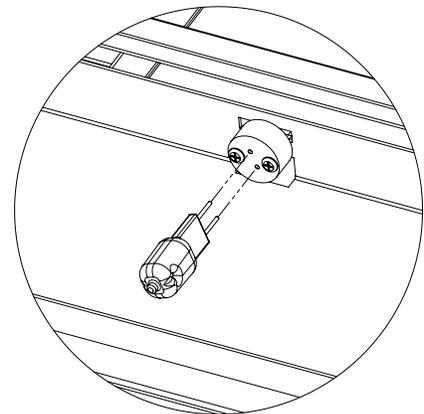

Figure 26. Halogen Bulb Replacement
6. Wear cotton gloves when replacing halogen bulbs. Grab bulb firmly at the base and pull straight out to remove; replace bulb as necessary. Grab new bulb by the styrofoam sleeve - it is vital that your bare fingers to not contact the bulb (see Figure 26). **The oils from your fingers will greatly reduce the life-span of the bulb.**